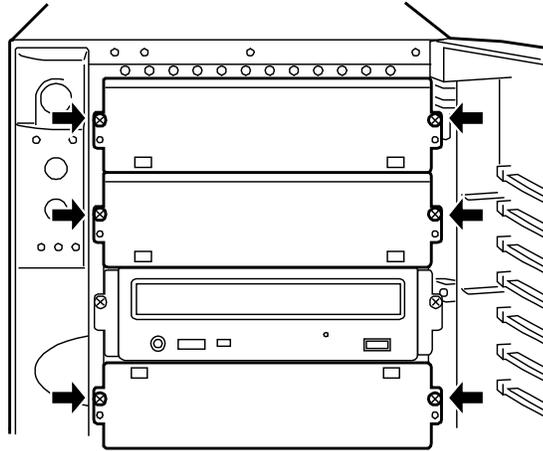

Figure 4-39. Removing Dummy Covers
3. Remove the two screws fixing the dummy cover. See Figure 4-39.